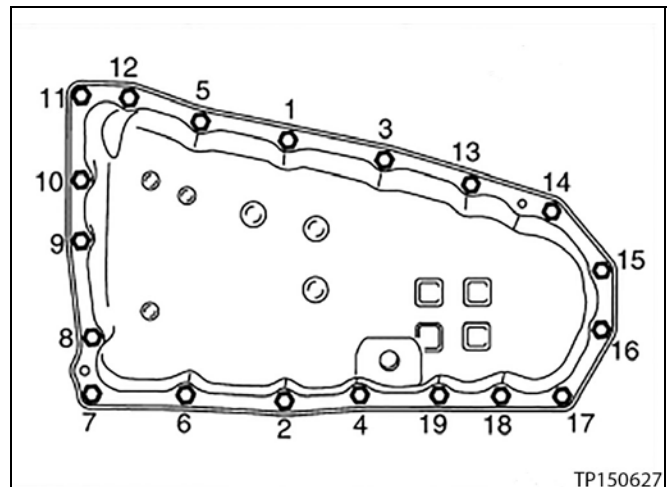

Figure 12J
11. Install the oil pan bolts (see Figure 12J).